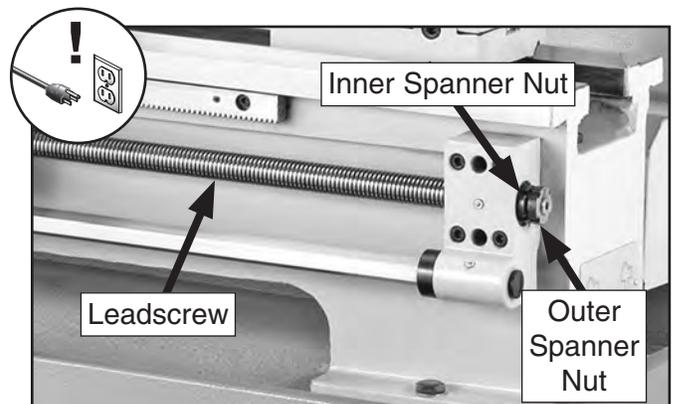

Figure 113. Leadscrew and spanner nuts.
2. Loosen outer spanner nut (see **Figure 113**).
4. Rotate carriage handwheel to move carriage toward tailstock, then tighten inner spanner nut (see **Figure 113**) until there is 0.001"–0.002" of end play.